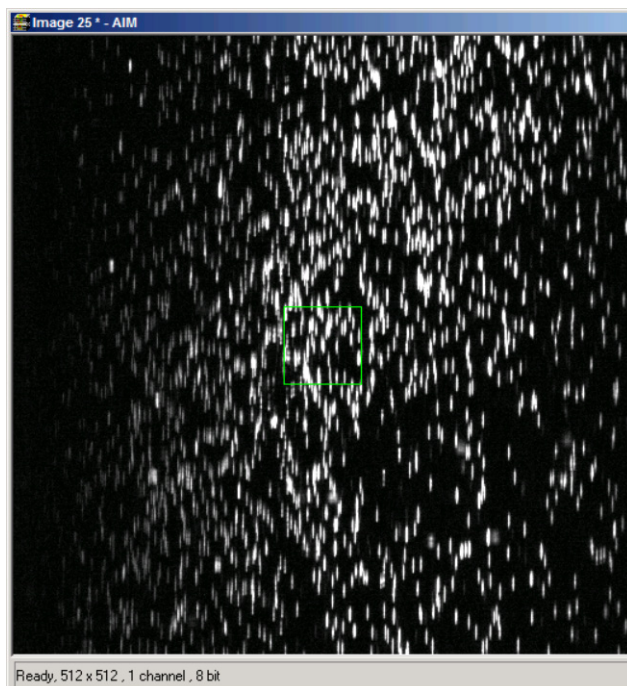

Fig. 11 **Beads focused for maximal vertical thinness**
- Focus with the microscope focus drive to get the vertical lines as thin as possible (Fig. 11).